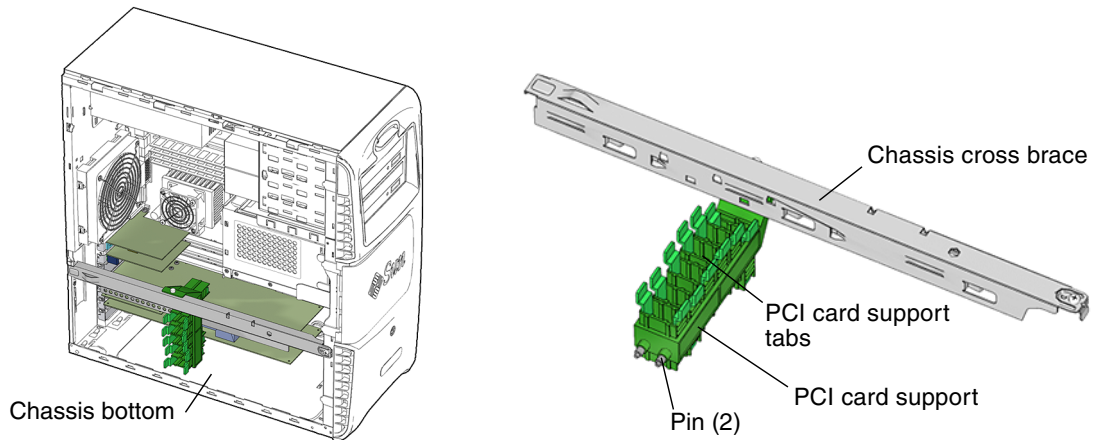

FIGURE 13-43 PCI Card Support Location and Identification
2. **Locate the PCI card support and the chassis cross brace (FIGURE 13-43).**
2. Locate where the PCI card support is to be installed (FIGURE 13-43).